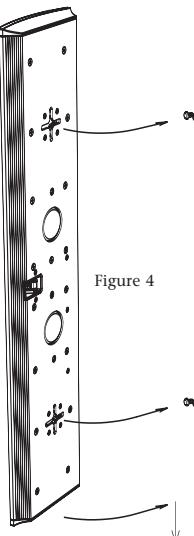

Figure 4
12. Line up the speaker so that the screws enter the center part of the + shaped channels; slide the speaker down so that the screw heads hold the speaker in place. [Figure 4]